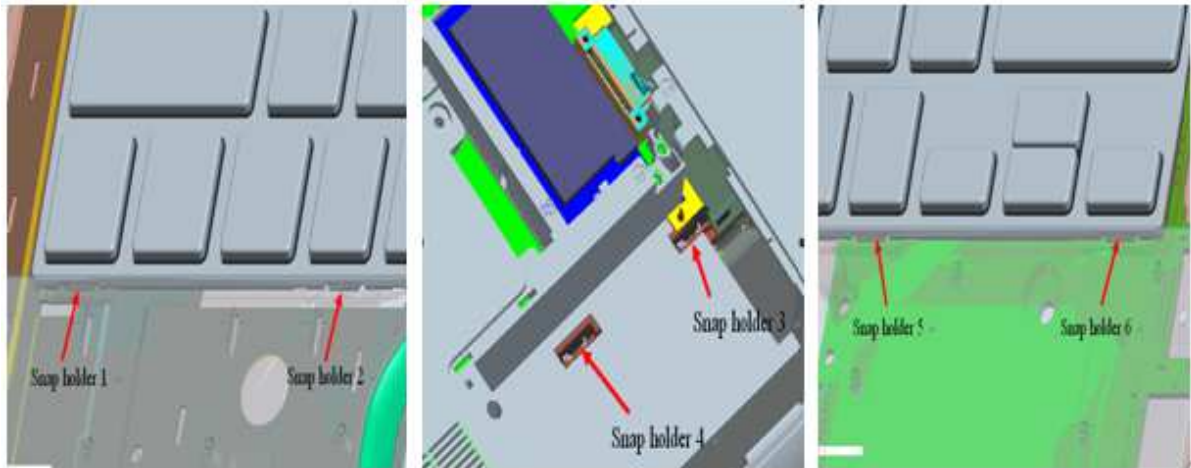

Figure 4-7-1 Remove the Snap holder 1-6
5. Release the keyboard snap holder 3 and 4. (See Figure 4-7-1)